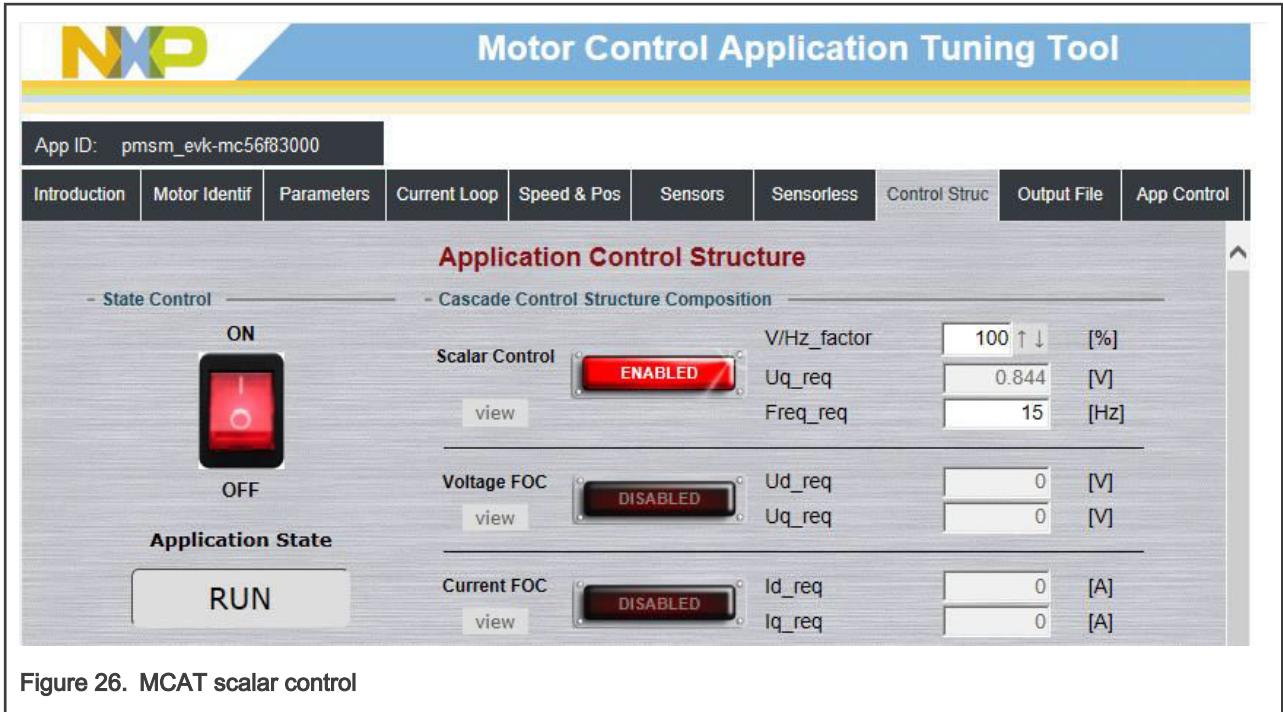

Figure 26. MCAT scalar control
3. Set the required frequency value in the “Freq_req” field; for example, 15 Hz in the “Scalar Control” section. The motor starts running (Figure 26).